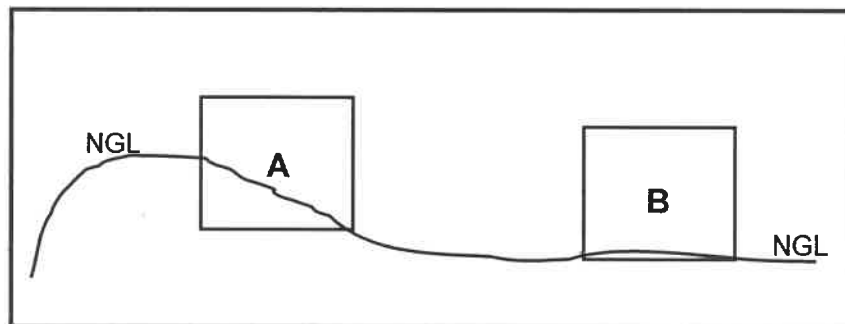

FIGURE 6.4
6.4 FIGURE 6.4 below shows the slope of the natural ground level on a site with a sand dune at A sloping down to firm rocky ground at B.